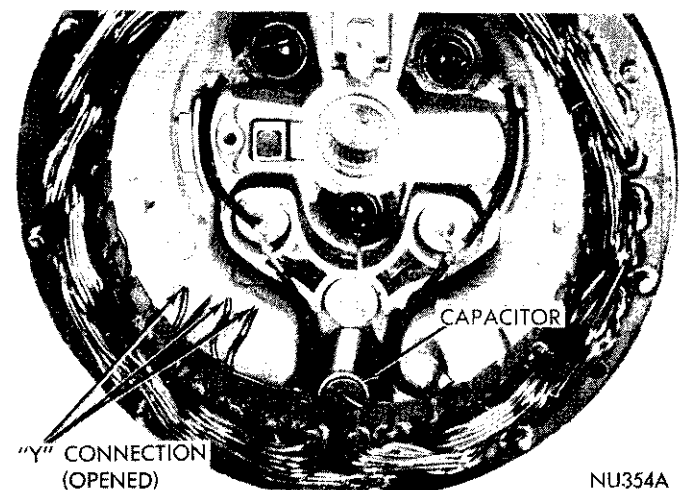

Fig. 12—Separating the Three Stator Leads
(a) Separate the three (3) stator leads at "Y" connection (Fig. 12). Cut stator connection as close to